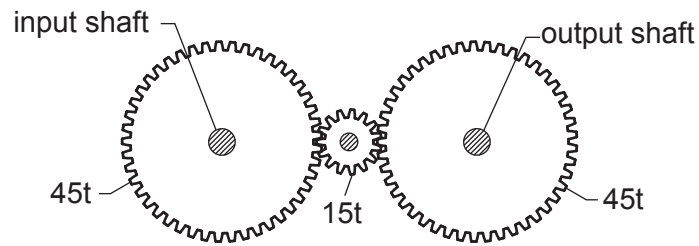

Fig. 5.1
- 5 Fig. 5.1 shows a series of spur gears in a machine.